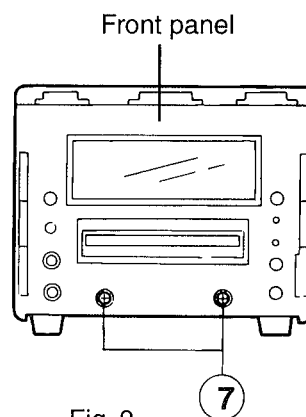

Fig. 9
4. From the front of body, remove the two screws ⑦ retaining the front panel. (See Fig. 9)